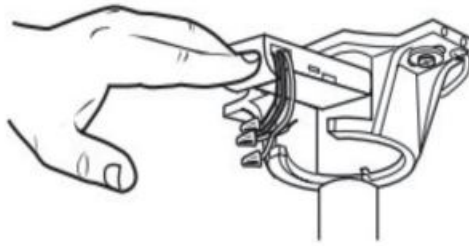

Fig.2
3. insert the receiver into the ceiling mounting bracket with the flat side of the receiver facing the ceiling. (Fig.2)